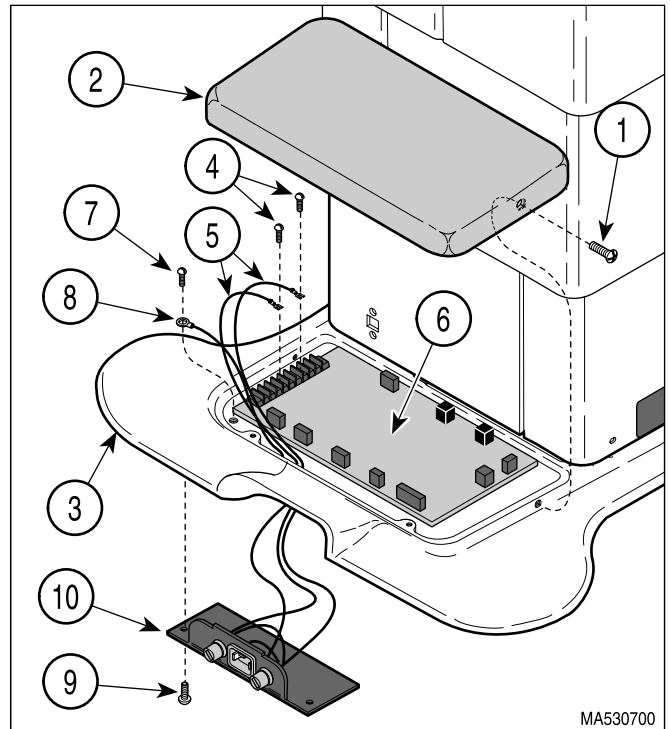

Figure 4-48. Power Inlet Bracket
- (1) Remove two screws (1, Figure 4-48) and PC board cover (2) from base casting (3).
- (2) Loosen two terminal screws (4); then tag and disconnect two wires (5) from terminals of PC board (6).
- (3) Remove screw (7) and ground wire (8) from base casting (3).
- (1) Insert AC receptacle (3) thru hole in power inlet bracket (4); then push inward until it locks into place.
- (2) Connect two wires (1) and ground wire (2) to proper terminals of AC receptacle (3).
- (3) Install power inlet bracket (10, Figure 4-48) on bottom of base casting (3) and secure with two screws (9).